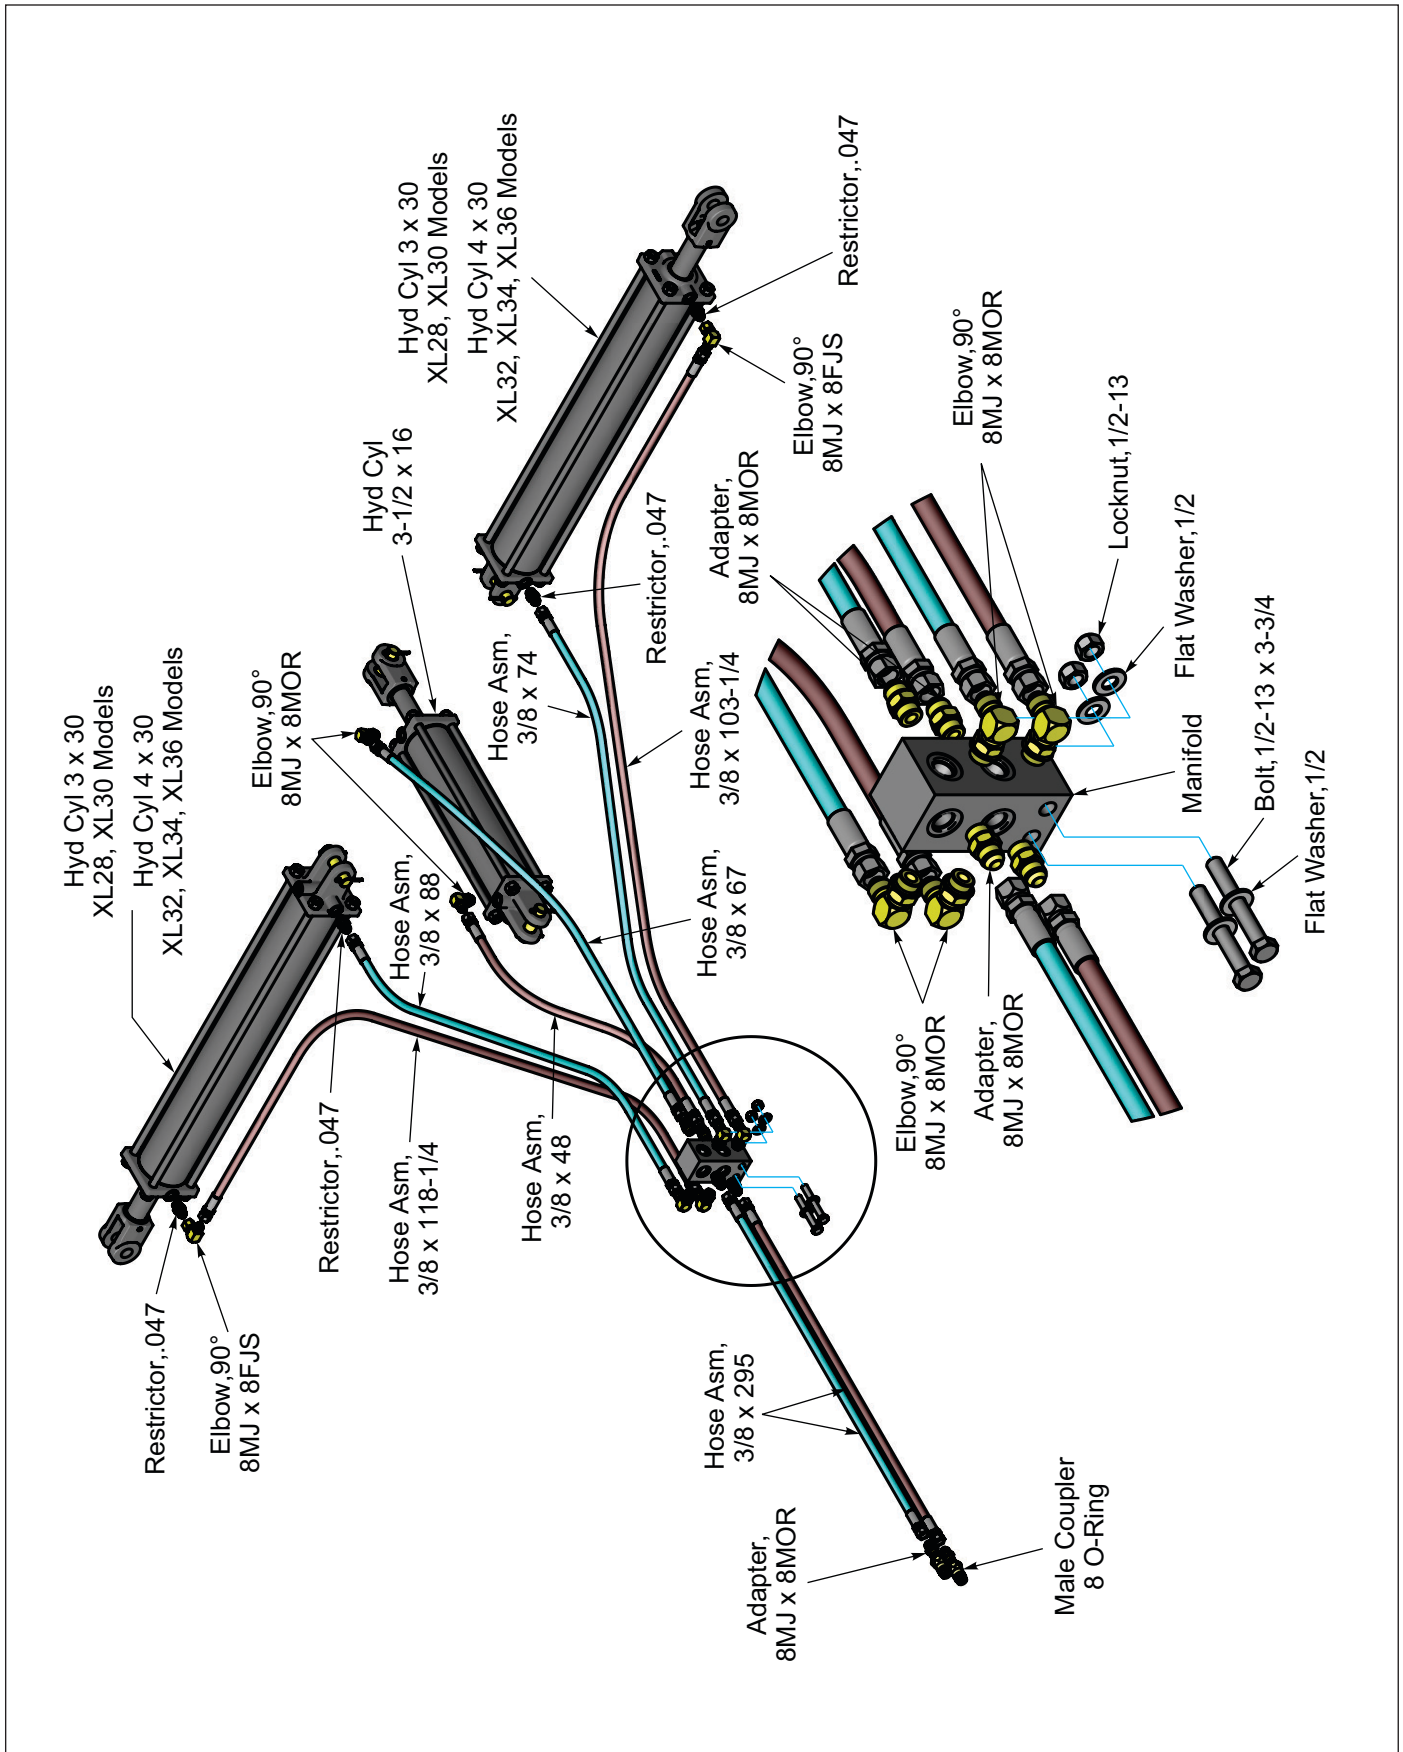

Figure 2-12: Hydraulic Schematic
5. Attach hoses from the Lift Cylinder to the rear of the Manifold. **See Figure 2-12.**